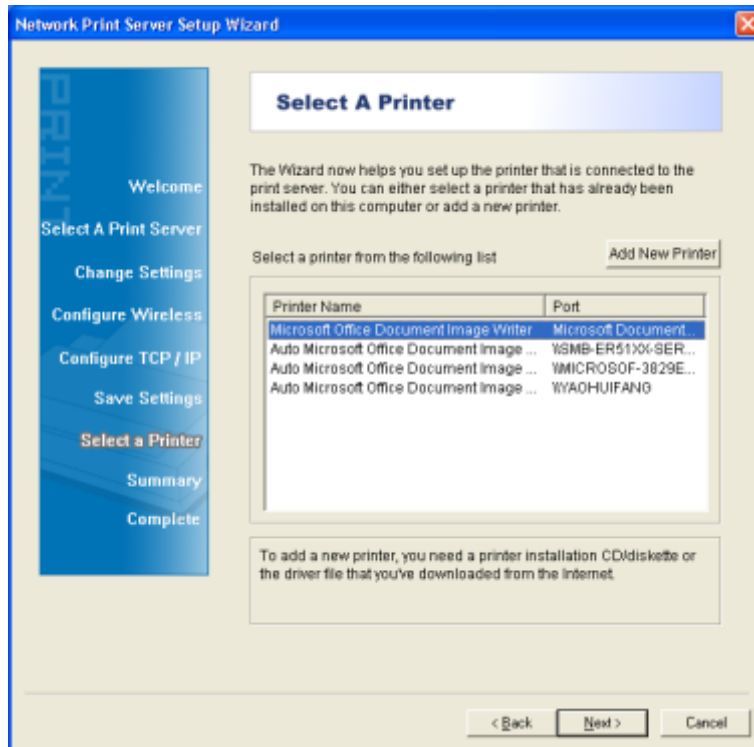
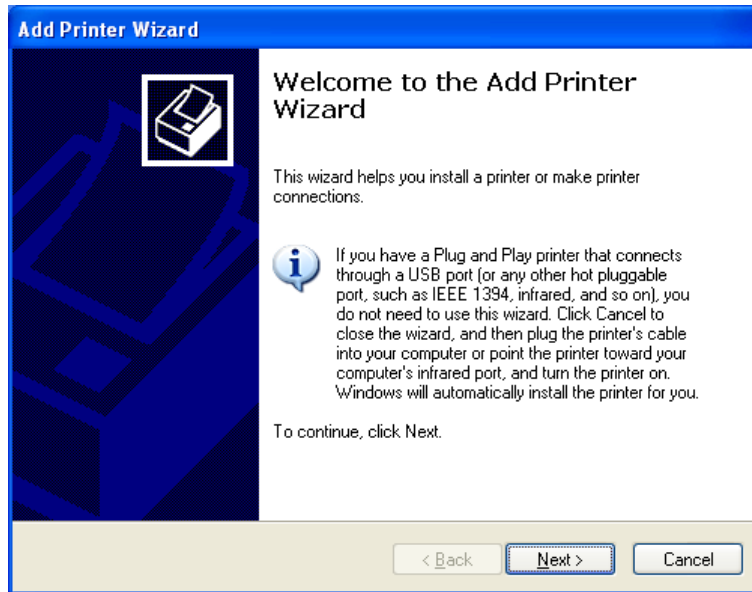

Figure 3-9
Figure 3-11
- Select “**No**” if you don’t need to change any settings. Click **Next** and then appears Figure 3-9. Skip to Step 8.
8. After that the “**Select a Printer**” page will appear, as shown in Figure 3-9.
- If you never use a printer on your computer before but also want to share printing, click **Add New Printer** button in Figure 3-9 and then Figure 3-11 appears. Follow the steps below to install the printer driver.